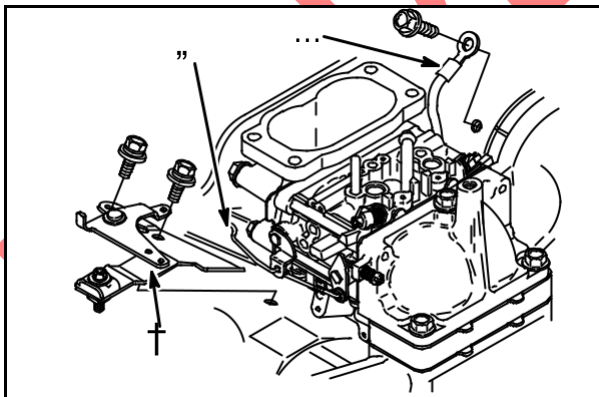

Fig. 17
Remove choke control bracket (6) and disconnect link (4), **Fig. 17**.